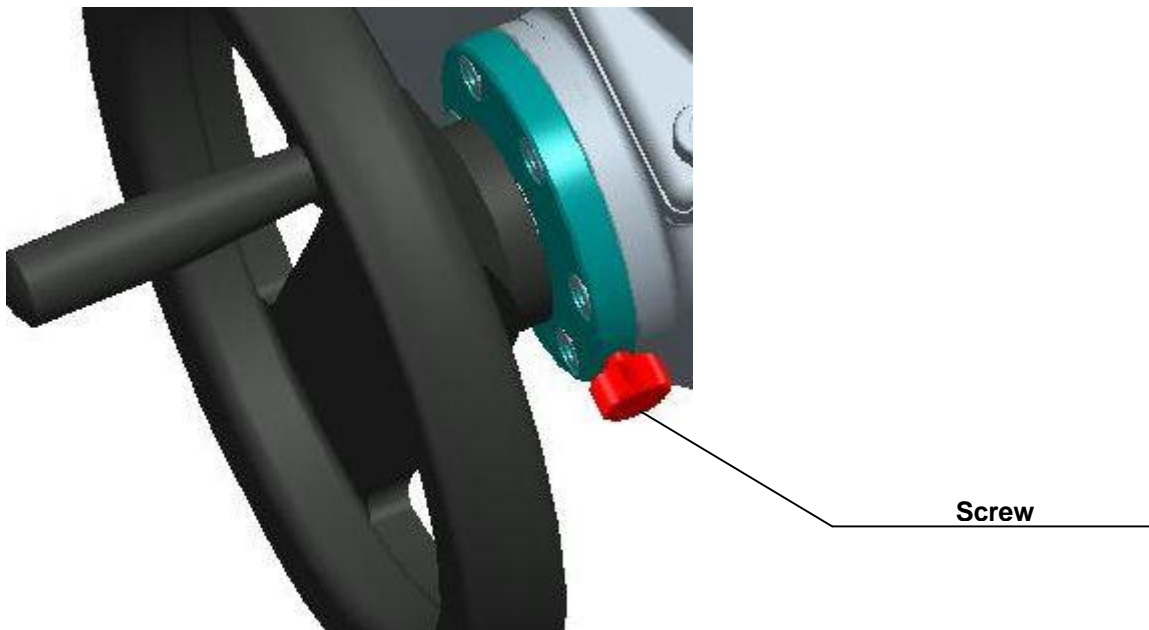

Fig.13
- Before manual control must be realized locking screw (**Fig.13**). Fasten locking screw after finishing of manual control.